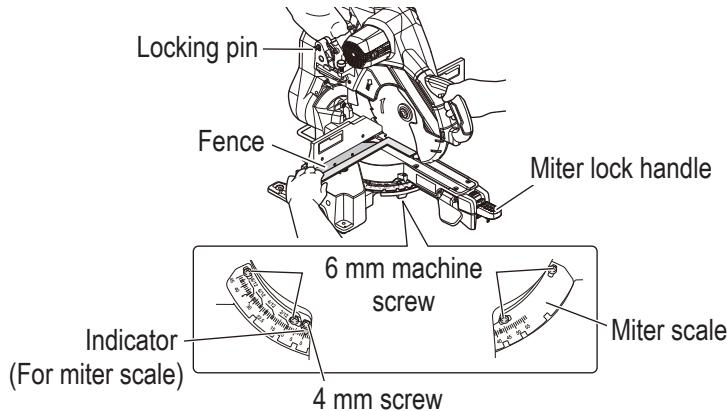

Fig. 15
- Do not lock the miter lock handle. Place a square against the saw's fence and blade, as shown in Fig. 15. (Do not touch the tips of the blade teeth with the square. To do so will cause an inaccurate measurement.)
- Retighten the 6 mm machine screws (4 pcs.). (Fig. 15)
Unlock the miter lock handle to move the turntable to the 0° position. With the miter lock handle unlocked, allow the positive stop to snap into place as you rotate the turntable to 0°. Observe the indicator (for miter scale) and miter scale as shown in Fig. 15. If the indicator (for miter scale) does not indicate exactly 0° loosen the 4 mm screw holding the indicator (for miter scale). In place reposition the indicator (for miter scale) and tighten the 4 mm screw.